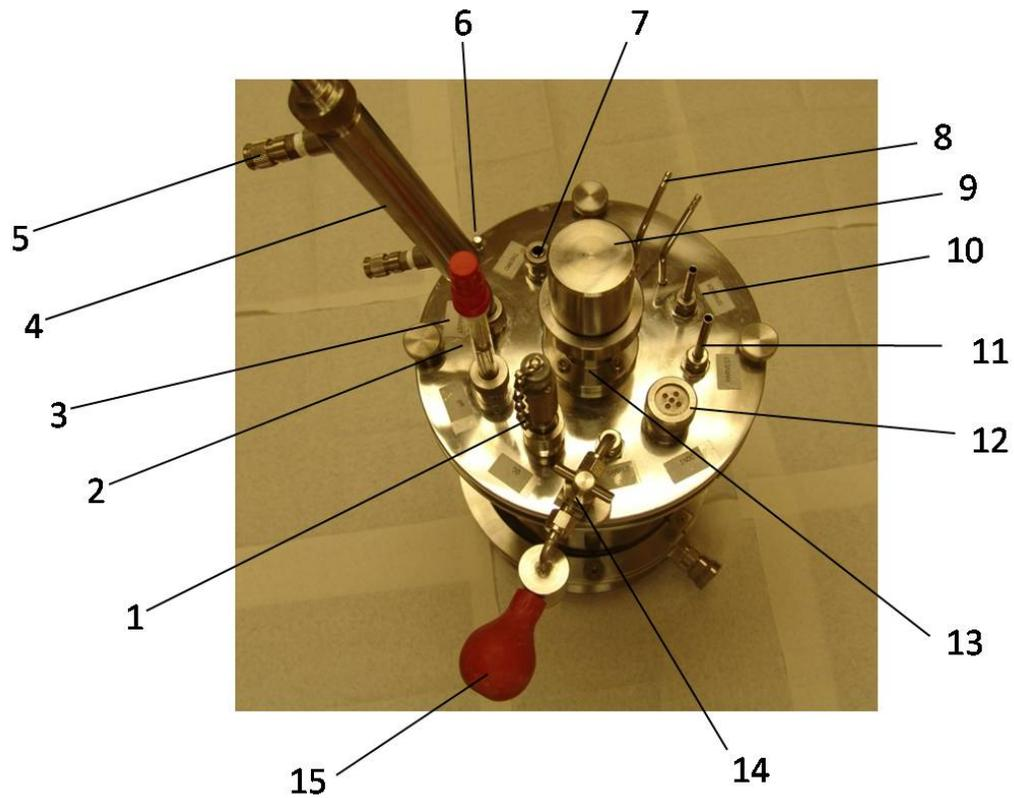

Figure 4: Assembled Headplate, Top Side
- 9.4. Figure 4: Assembled Headplate, Top Side